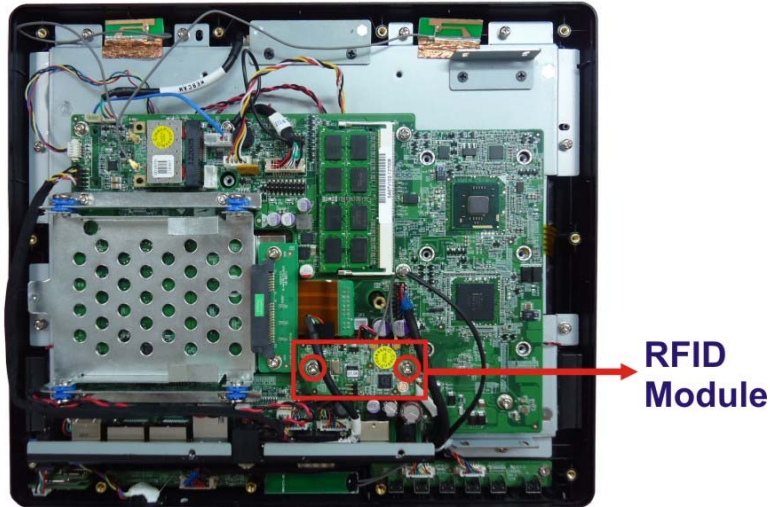

Figure 3-7: RFID Reader Module Installation
Step 3: Using two retention screws to install the RFID reader module in the location shown in **Figure 3-7**.